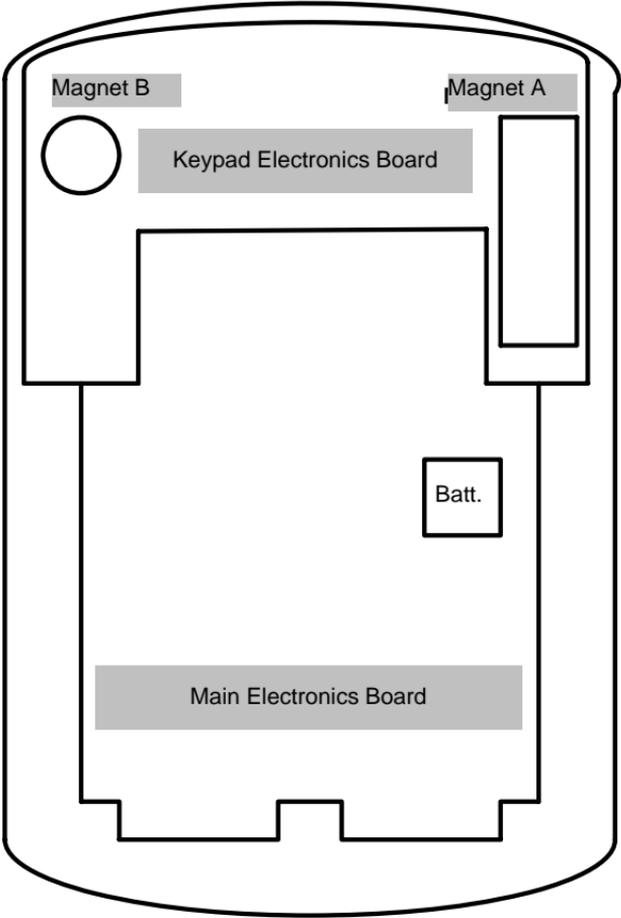

Figure 10 Tamper Switch Installation
- Tamper Switch must be installed in one of the configurations recommended below, and connected to an intrusion alarm system. (Refer to Figure 10 for switch/magnet locations)
3. Remove the backing sheet from the tape on the magnet and stick the magnet to the **plastic spacer**, which is factory-installed to the back of the Keypad board in location A (Figure 10).
2. Remove the backing sheet from the tape on the magnet and stick the tape to the **plastic spacer**, which is factory-installed to the back of the Keypad board at location B (Figure 10).